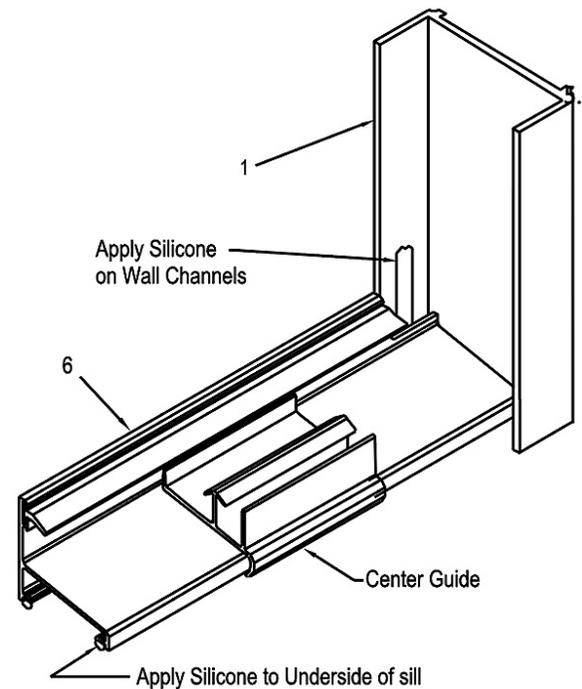

FIGURE 2
1. Set wall jambs (1) in place on walls, centering bottom of jambs on rim of tub. Hold plumb and mark walls for screw holes.
2. Remove and drill 3/16" diameter holes in walls (use a carbide tipped drill bit for tiles walls). Insert plastic wall anchors (2) into holes. Silicone where the wall meets the rim of the tub to seal the bottom of jamb. Set jambs in place and secure to wall with #8 x 1-1/4" screws (3). Secure bottom bumper (4a) on shower head/inside with the bottom wall jamb screw (3).
3. Cut sill (6) to fit opening between jambs. Run a bead of silicone full length to the underside of sill (See Figure 2) and apply silicone to inside of jamb where jamb meets tub. On the inside of jamb, run an 1/4" bead of silicone 1-1/4" up the outside leg of each wall jamb (See Figure 2). Set sill in place and press firmly to rim of tub. Wipe off any excess silicone before curing. Use tape to hold in place until silicone has set.
4. Cut header (8) 1/32" to 1/16" less than opening width and set in place.
5. To set slider glass in place, hold inside slider inside of tub shower pan, insert rollers up into header and lower into place. The inside slider glass has only one hole for the inside pull handle (10) and will close against the wall jamb on the shower head side. Next, insert lower end of outside slider in front of inside slider by pushing lower ends far enough in to allow clearance on inside edge of tub or pan. Avoid roller brackets to roller bracket contact while lifting panel into place. The outside slider will close against the jamb opposite the shower head.
6. Place center guide (7) in the middle of the sill (See Figure 2). Make sure the center guide is hooked into position on the sill, and then snap center guide to sill.
8. To install towel bar (9), place nylon towel bar insert sleeve (13) into holes in the glass (17). Next, hold the tubular towel bar (9) against the hole in the glass with the nylon towel bar/pull washer (12) between the glass and the towel bar.